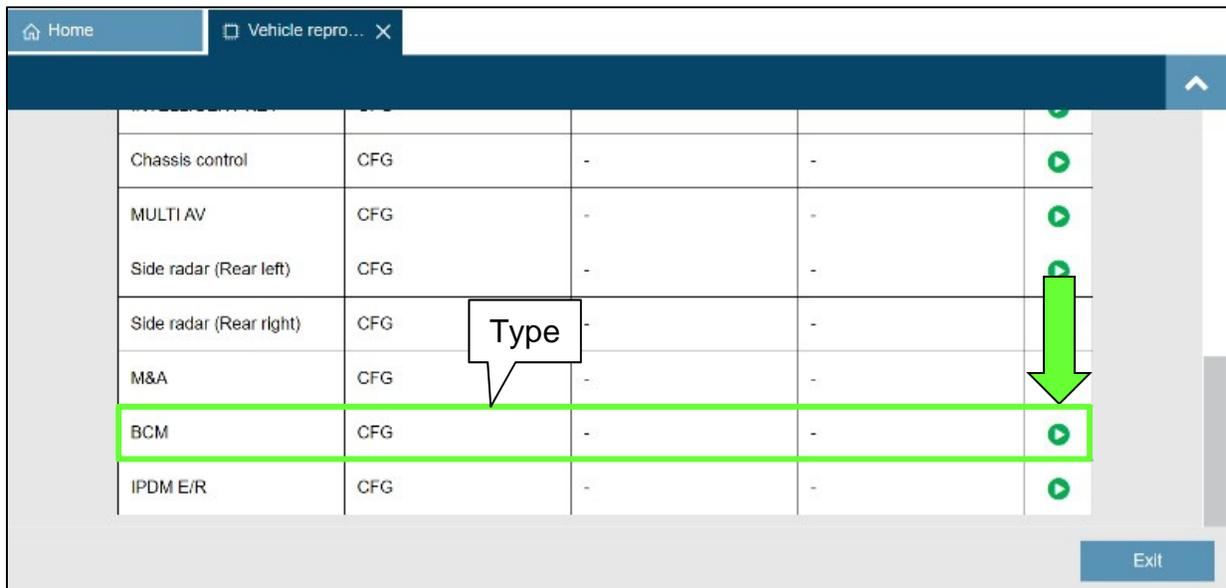

Figure 11
- Select the Play icon for BCM (Figure 11).